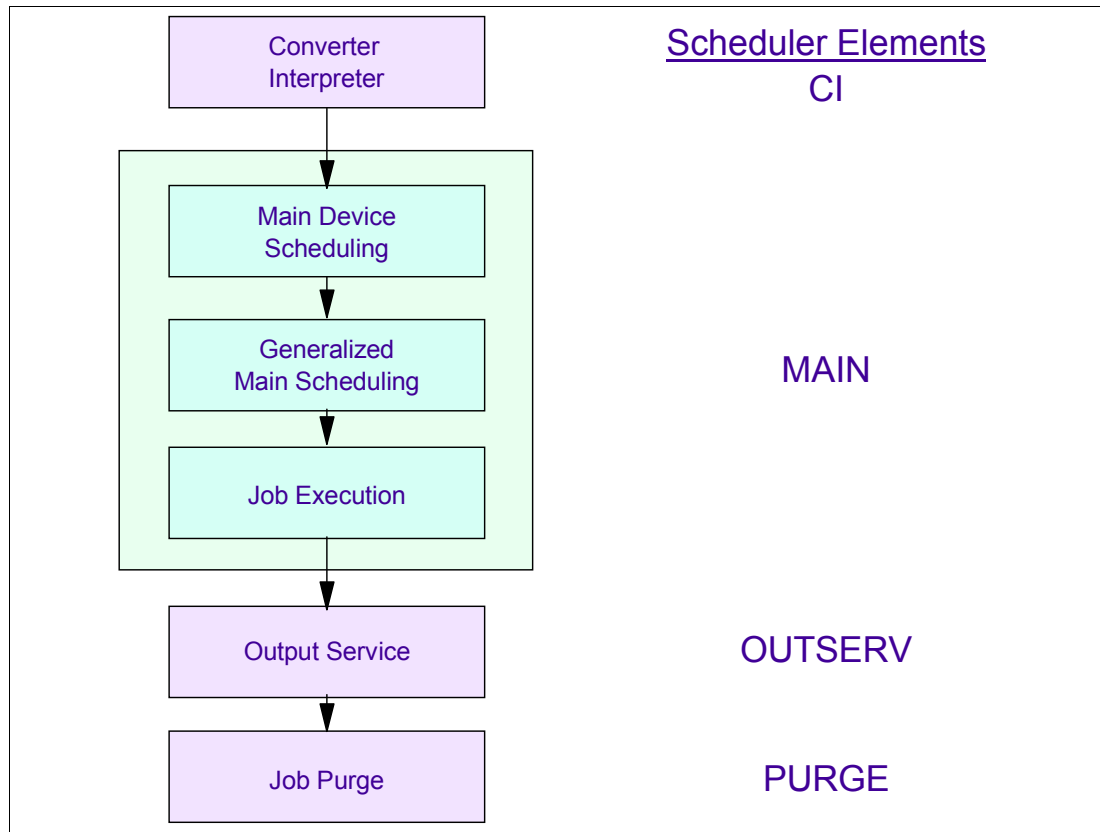

Figure 3-45 JES3 job flow: Scheduler elements
Each of the four phases of a job is represented by a scheduler element (SE) in the JCT entry for the job shown in the Figure 3-45. Every scheduler element denotes a unit of work JES3 must perform to process the job. Each is represented on the FCT chain by one or more DSPs that performs the work required for that type of SE. Scheduler elements needed for job A are listed here (the actual DSP name is shown in capital letters).